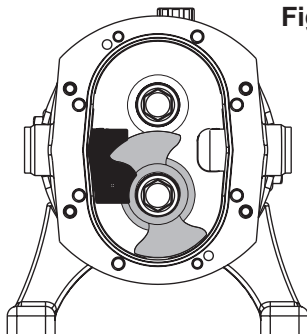

Fig. 4
6. Position the rotor locking piece as shown in fig. 4.
7. Undo and remove the bottom or left rotor screw (32).